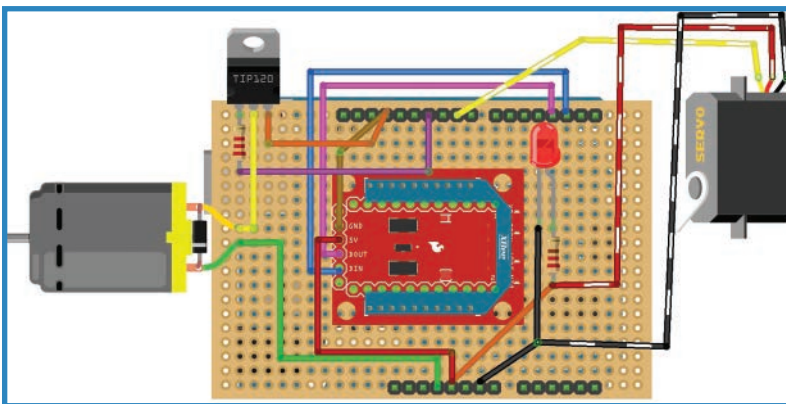

FIGURE 11.16 Next, attach the servo.
- f. Add the servo. The yellow and white striped wire (seen in Figure 11.16) is data and connects to pin 9 of the Arduino. The other two wires, red and black (each with stripes), connect to 5V and ground, respectively. You'll usually encounter servos with plugs on the end of the wire. If this is the case, you can solder in some male header pins and simply plug in the servo.